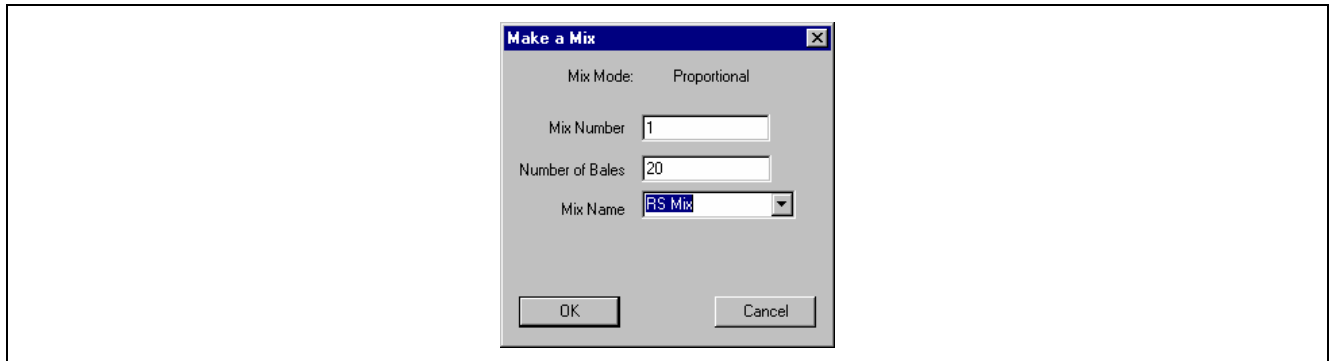

Fig. 6-45 Make-a-Mix Screen
13.1 The Make a Mix window will appear (Fig. 6-45)